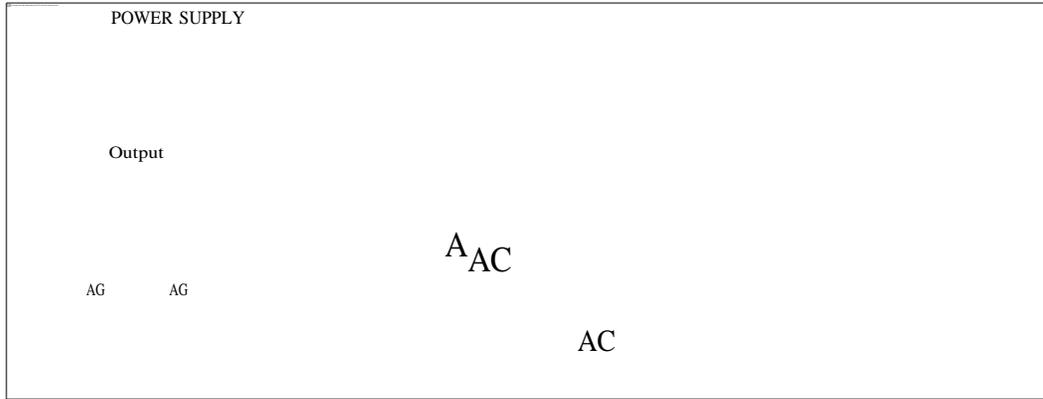

FIGURE 8.10
- Step 28: a) Disconnect your leads from the main winding and connect them to the auxiliary winding, terminals 3 and 4 as shown in Figure 8.10.